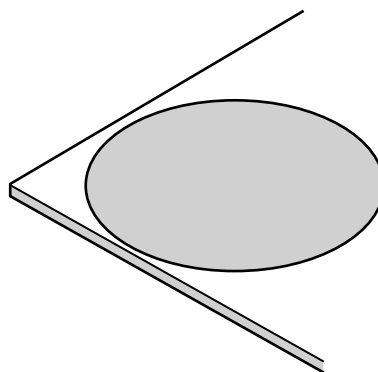

Fig. 8
- (b) (i) Fig. 8 shows the clock face marked out on a sheet of 12 thick plywood. The shape will be cut out using a jigsaw.